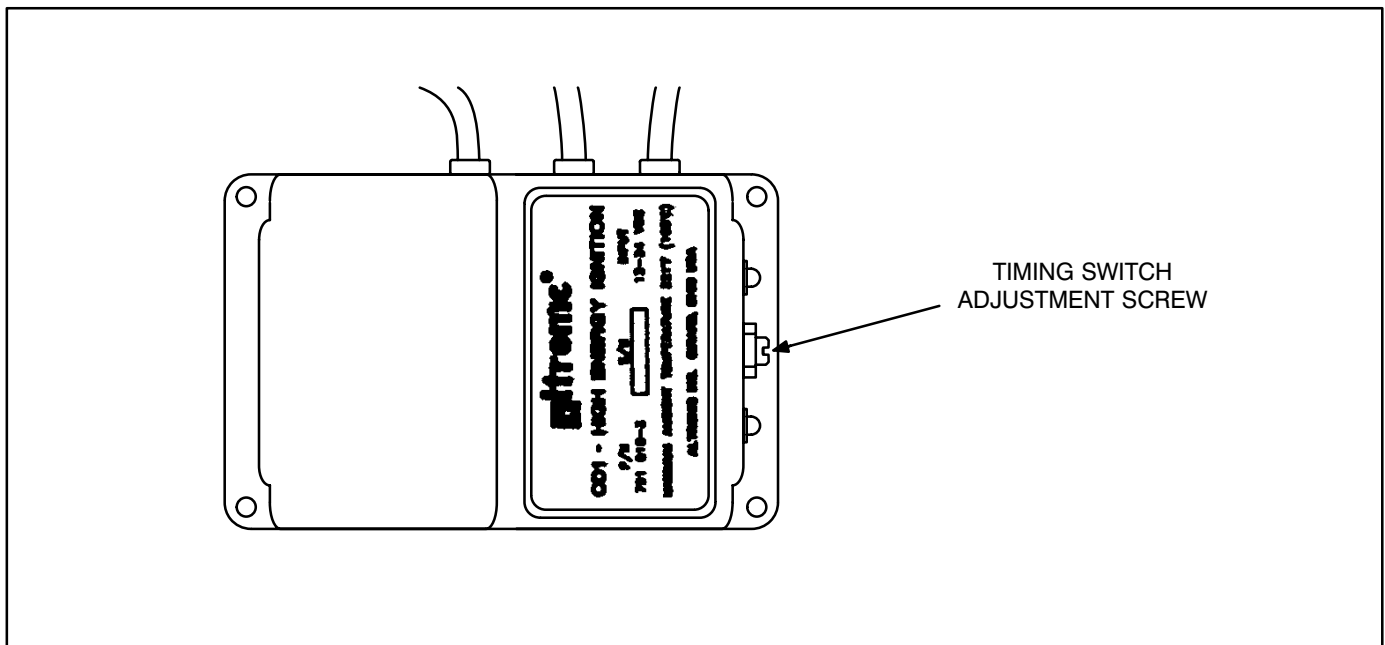

FIGURE 7-2. CD1 IGNITION MODULE
4. If the engine timing needs to be adjusted, remove the white plastic cap and turn the timing switch adjustment screw (10 degree range) of the CD1 Ignition Module (Figure 7-2).